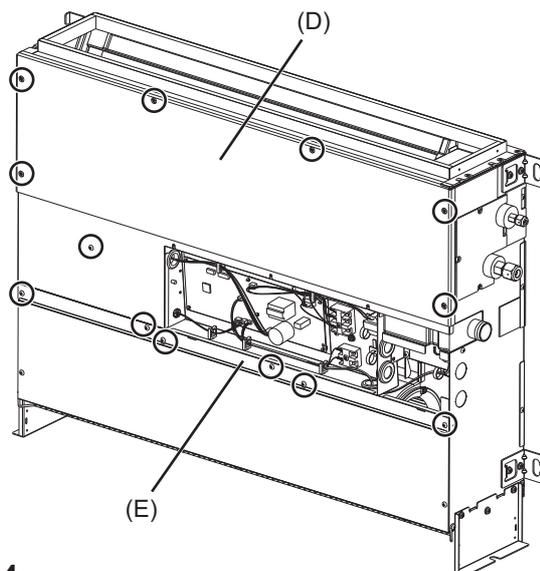

Fig. 4
1. Remove the control box cover (A) with procedure [1]-1.
2. Remove the fixing screws on the front plate (D), (E) to remove it. (Fig. 4)